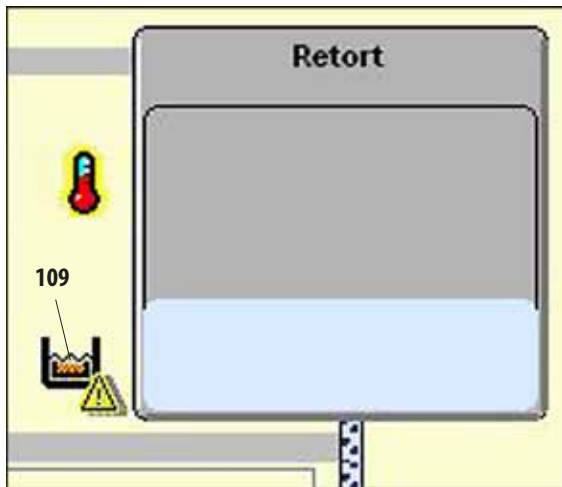

Fig. 246
The safe specimen state of the instrument is indicated on the **SMART** screen with an icon (109) immediately to the left of the retort (Fig. 246).